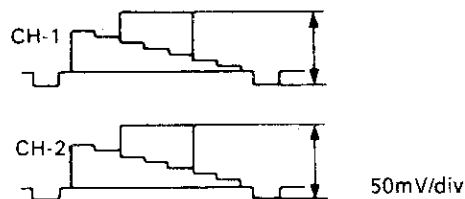

Figure 2-10.
2. Adjust R202 (delay level control) so that the levels for CH-1 and CH-2 are the same as shown in Figure 2-10.